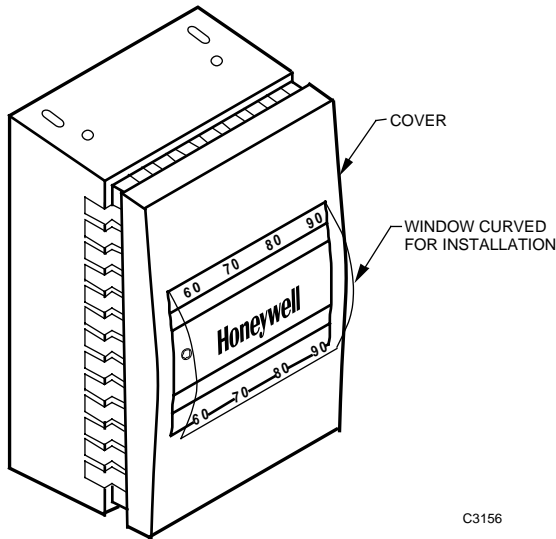

Fig. 20. Installing Window.
7. Remove liner from adhesive on back of Window. Slide Window into Cover opening (Fig. 20) and press in place.